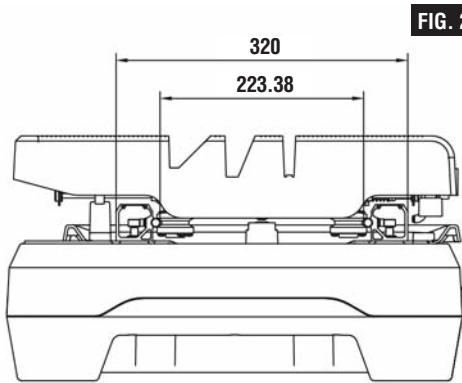

FIG. 25
3. Use a slide caliper or straight ruler to measure the distance between the two rails at one end of the rails. Make sure that the distance is 12-5/8" (320mm), and then slightly tighten the screw at that end of each rail. Follow the same procedure at the other ends of the rails to adjust the distance between the rails to 12-5/8" (320mm), and slightly tighten the screw at that end of each rail (Fig. 25).